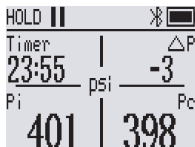

Figure 3 Pressure hold start interface
① The parameters of this step need to be connected to the APP for setting
① Short press any button to turn off the prompt sound
5. **Start leak test** : click after the device reaches  the pressure warning value to start the leak test , and the timer starts counting down (Figure 3) .